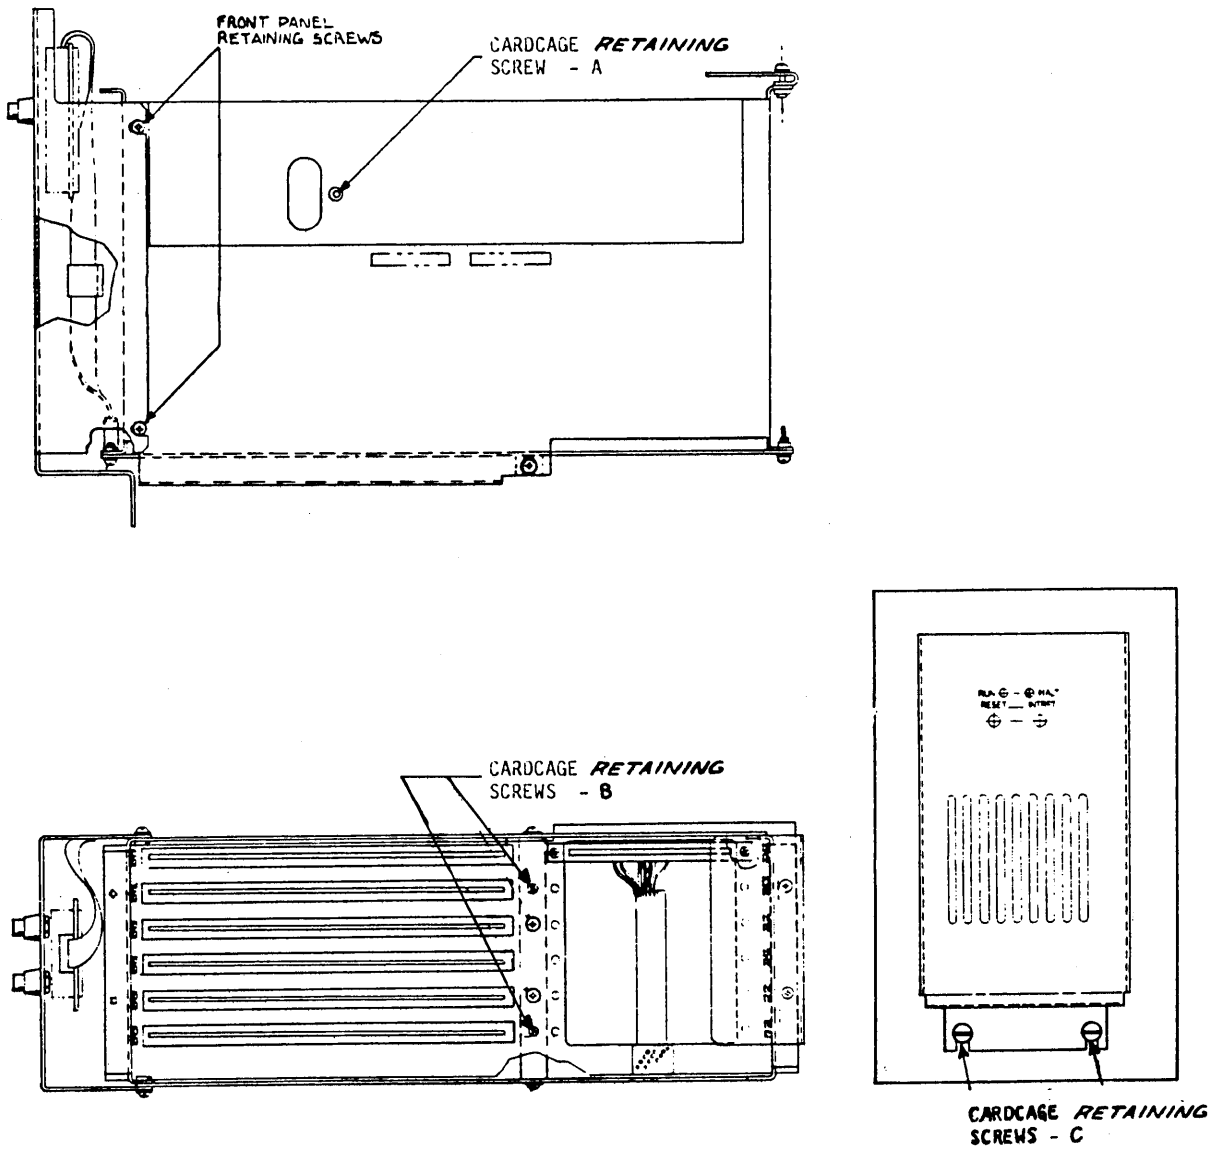

Figure 4-13. Installation Sequence of Card Cage Retaining Screws
13. Referring to Figure 4-13, align the holes in the card cage marked A and B first, install the three screws and then install the screws in the hole marked C. Tighten the five screws, then reposition the front panel and tighten the front panel retaining screws.